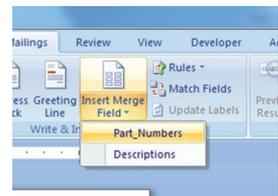

FIGURE 11 Bottom half of the Insert Merge Field button selected, with column header names displayed.
I. Now click on the **bottom half** of the **Insert Merge Field** button on your Word toolbar (Fig. 11). The names of your column headers will be displayed.